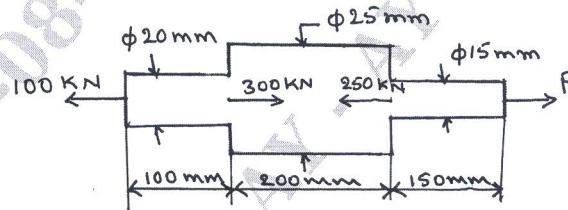

Fig.Q1(b)
- b. Find the stresses in various segments of the circular bar shown in Fig.Q1(b). Also find total elongation. $E = 195 \text{ GPa}$.